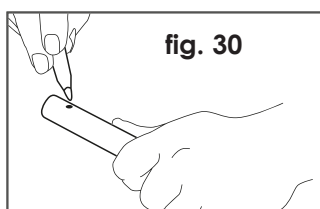

fig. 30
e) Mark the insertion depth of the pipe into the fitting on the pipe (see table 1, insertion depth, Technical Manual) (fig. 30).